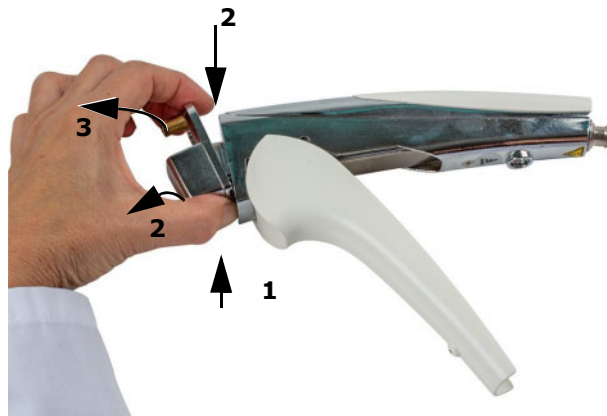

Fig. 62 Hand sealer - remove sealing head
- Push the sealing head upwards with your thumb (Fig. 62, Item 1), while exerting a counter-pressure on the hand-held sealer with your index finger (Fig. 62, Item 2), slightly tilt and remove the sealing head by pulling it to the front (Fig. 62, Item 3).